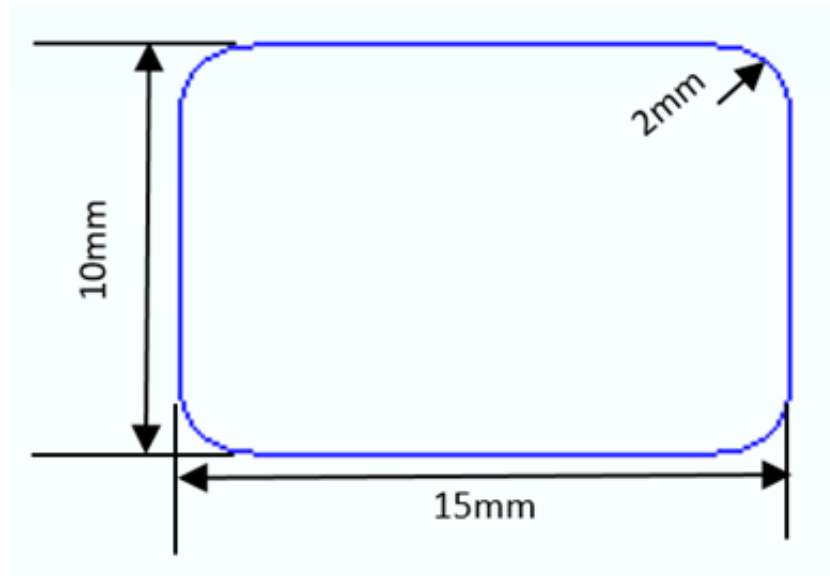

Figure 75: Corner Radius Rectangle Example
- Corner Radius – the radius of the corners of the rectangle. The example in Figure 75 shows a rectangle of 15mm by 10mm with a corner radius of 2mm.